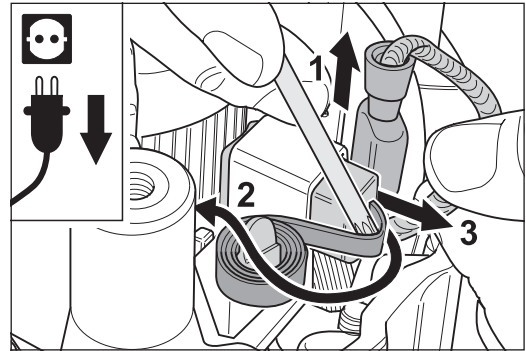

Fig. 54 Pull off the connector (1), turn the brass pressure clamp to the side (2) and remove the carbon brush (3).
- 3 Pull off the connector of **one** of the carbon brushes from the carbon holder (fig. 54, 1).
- 4 Turn the brass pressure clamp of the carbon holder to the side using the universal spanner (fig. 54, 2) and remove the worn-out carbon brush (fig. 54, 3).